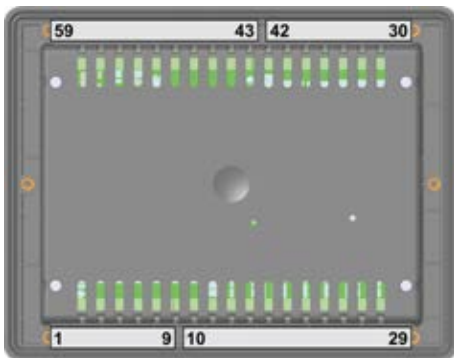

Fig. 15: Terminal allocation easYgen-2200/2300
- easYgen-2200/2300 - shown in Fig. 15